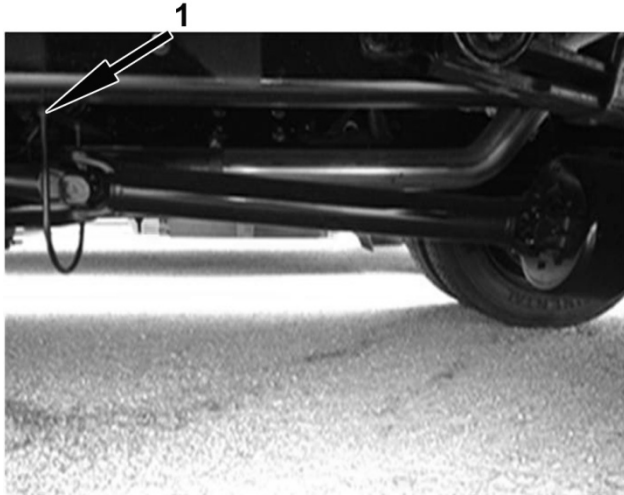

Figure 1
2. Remove rear driveshaft loop just above U-joint and set aside to be reinstalled in step 8 (Figure 1).